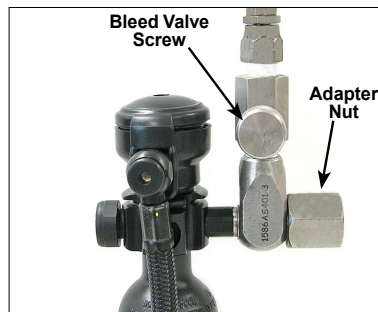

Figure 13
2. Fit the threaded male fitting of the fill adapter into the fill port of the first stage and turn the adapter nut clockwise by hand until snug. DO NOT apply a wrench or otherwise overtighten the fill adapter. (Fig. 13).